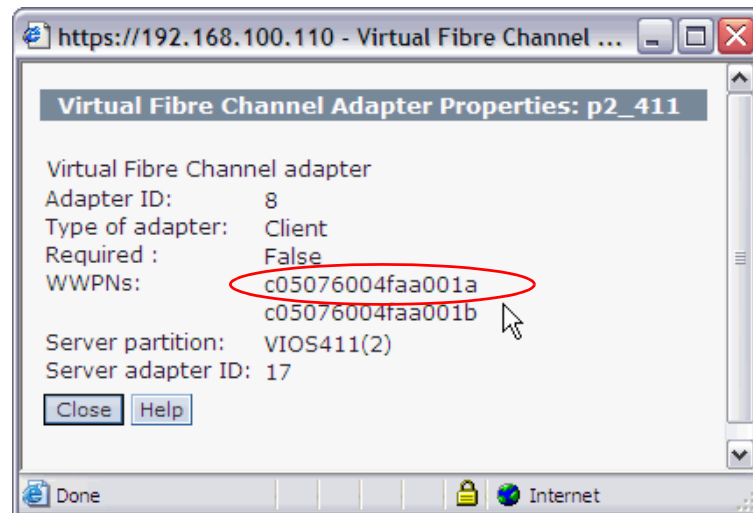

Figure 5-23 World wide port names
22. Obtain the WWPNs to be used from the Client Properties panel (Figure 5-22 on page 129). The lowest numbered port name is usually the WWPN that is presented to the SAN devices. Figure 5-23 highlights this number.